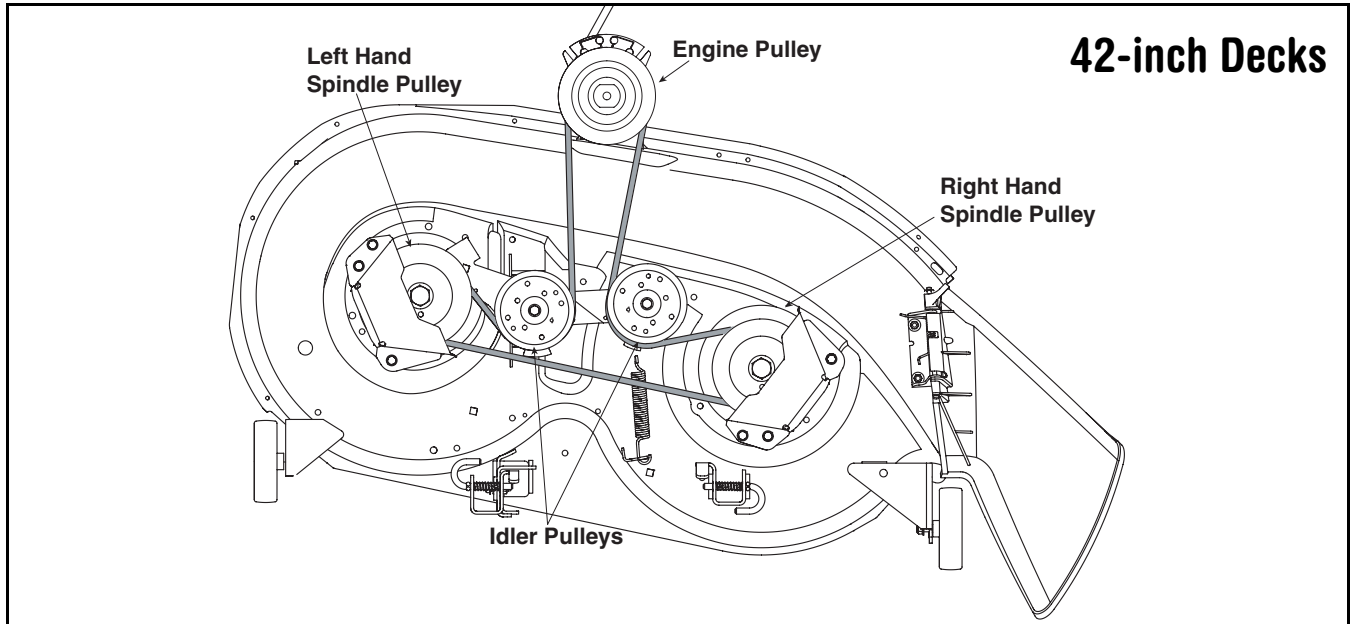
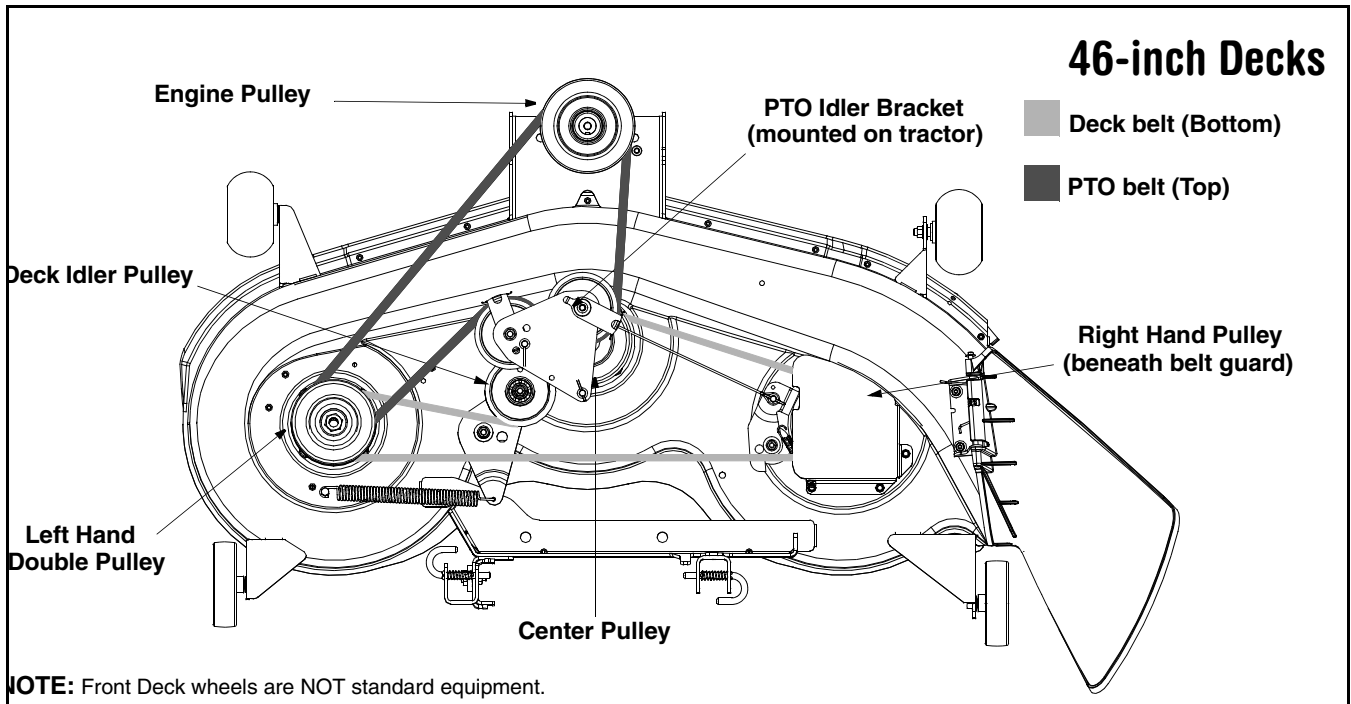

Figure 27
Figure 28
- Remove the PTO belt (46" Deck)/ deck belt (42" Deck) from around the tractor's engine pulley and idler pulley(s). Refer to **Changing The Deck Belt & PTO Belt** and Figure 27 and Figure 28.
- Route the new belt(s) (**deck belt first - 46" deck**) as shown in Figure 27 and Figure 28.